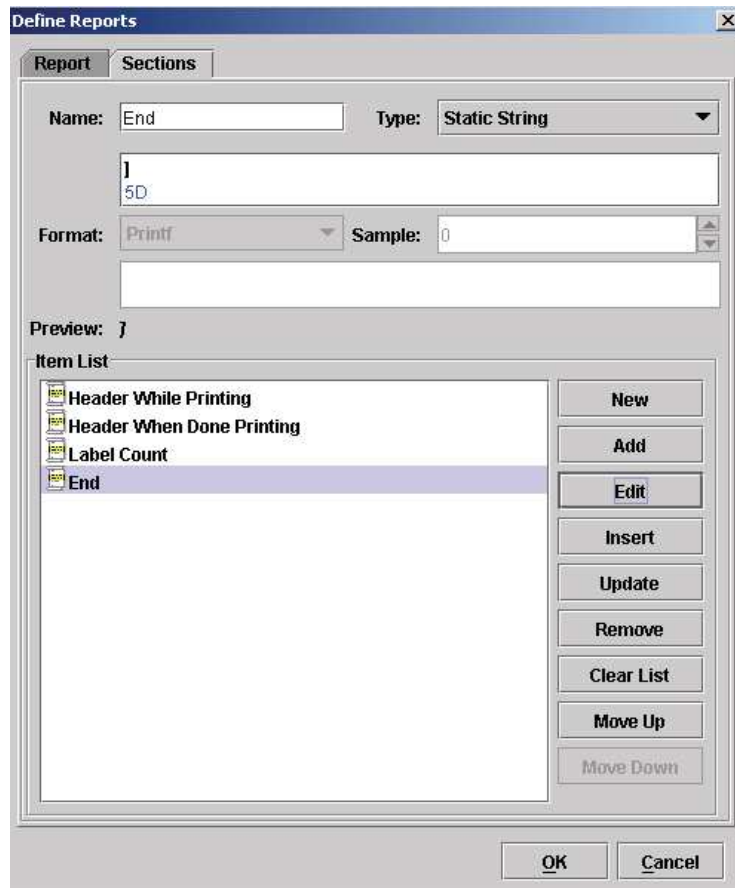

Figure 217 Creating a Sections Item List
16. Click **Add**. The End section is added to the Item List pane (Figure 217).